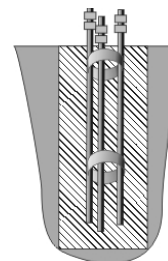

Fig.10.4
10.3.3 Plumb the OST-1 posts into the holes, leaving the portion with attachments above the ground, then fill the holes with concrete or mortar as per Fig.10.4.